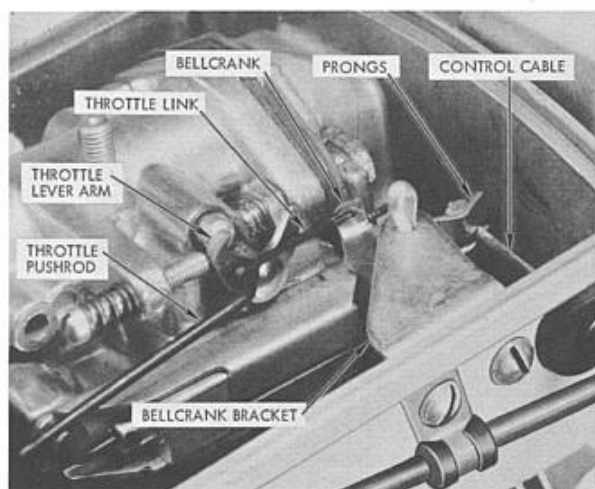

Figure 10. Bellcrank Assembly
8. Assemble the Bellcrank on the Bellcrank Bracket with the Cotter Pin (see Figure 10). Spread the ends of the Cotter Pin apart to hold the Bellcrank in place on the Bracket.
14. Rest the free end of the throttle link on the bellcrank and make a mark on the link directly over the hole in the bellcrank. Bend the link down at the point marked, so that the end of the link will drop down through the hole. Make another bend in the link under the bellcrank, to hold the link securely in position. (See Figure 10.)